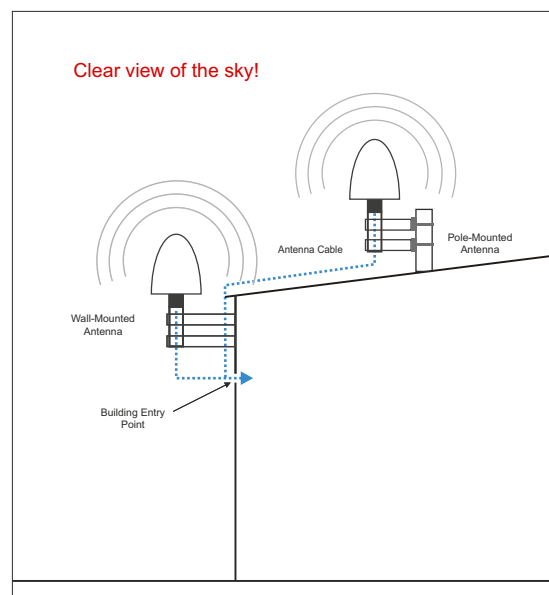

Fig. 1: Ideal Positioning
In either case, the location must be selected to ensure that the view of the sky is not obstructed in any direction (see Fig. 1) in order to ensure that enough satellites can be received.
To ensure that your antenna has the best 360° view possible, Meinberg recommends mounting the antenna on a roof on a suitable metal pole (see Fig. 1, antenna illustration on right). If this is not possible, the antenna may be mounted on the wall of a building, but must be high enough above the edge of the roof (see Fig. 1, antenna illustration on left).
- Vertical installation of antenna (see Fig. 1)